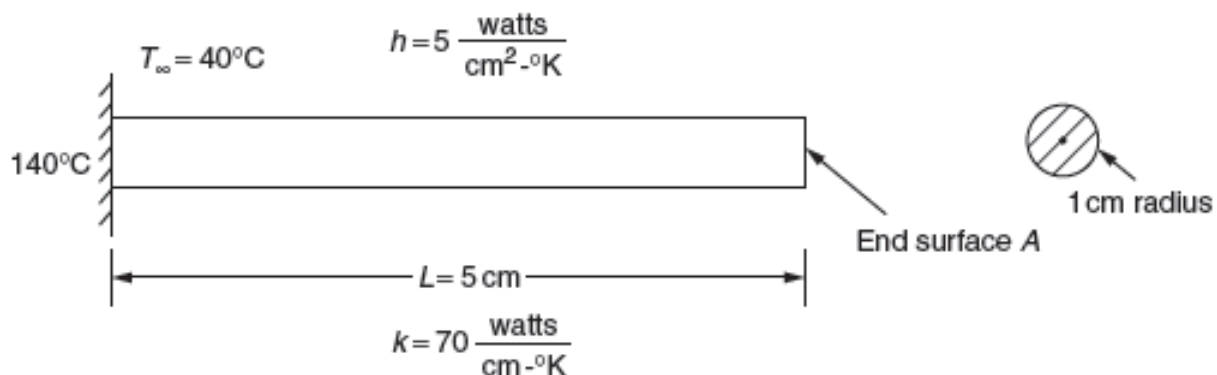

Figure P7.5
5. Find the temperature distribution in the one-dimensional fin shown in **Figure P7.5**